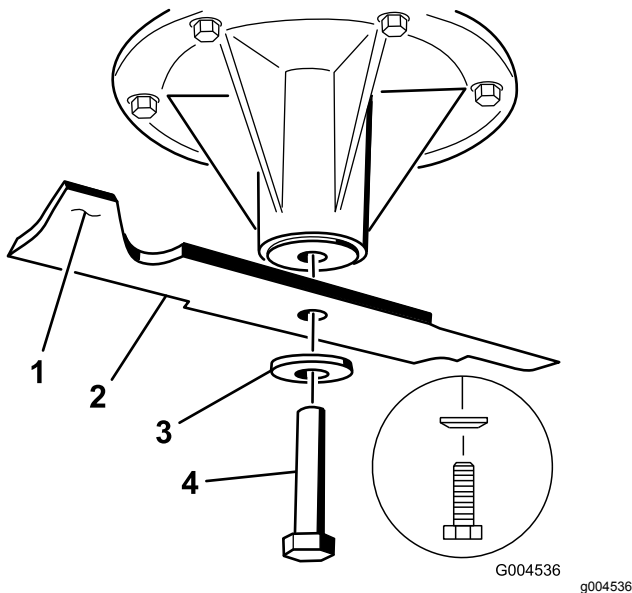

Figure 91
2. Remove the blade bolt, curved washer, and blade from the spindle shaft (Figure 91).
3. If the blade is not balanced, file some metal off the end of the sail area only (Figure 91).